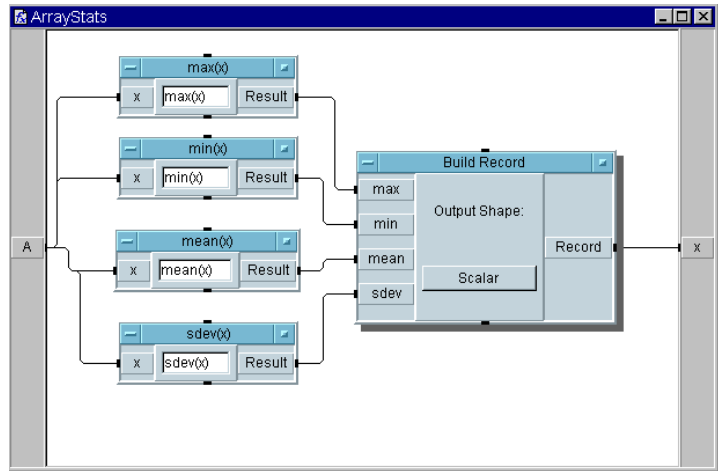

Figure 213 Editing the UserFunction ArrayStats
- f Connect the Build Record output to the X output terminal on the User Function editing window. The program should look like Figure 213. Then click the iconize button on the window.